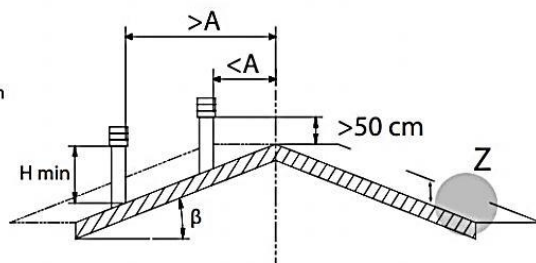

figure 1
- installed to enable proper dispersion and dilution of combustion products outside the reflux zone (backflow) because the counter pressure occurs here. Therefore, it is necessary to adhere to limitations listed in *figure 1*,